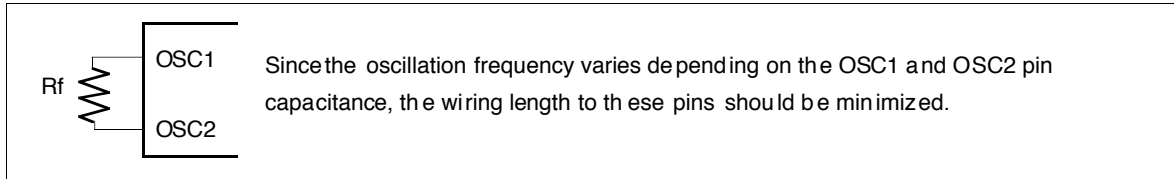

Figure 47 Internal Oscillation
11. Applies to the internal oscillator operations using external oscillation resistor Rf (figure 47 and table 28).